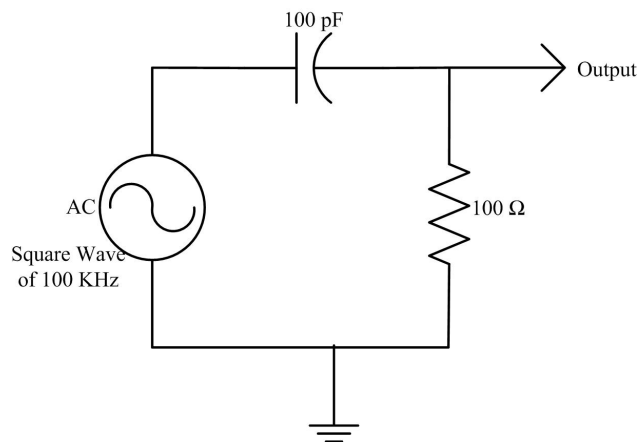

Figure 2: Schematic representation of an differentiator circuit using R and C components.
- Differentiator circuit: Build the circuit on the breadboard as shown in the Figure 2. Check your output for triangle wave input of $10\text{ V}_{\text{p-p}}$. Capture the image of input and output in CSV format and draw this plot in your lab report.